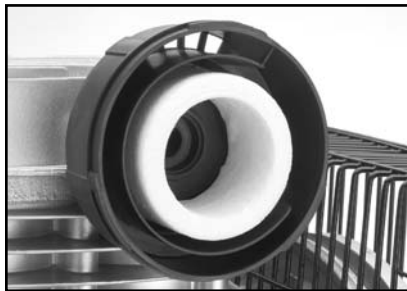

Figure 14. Air filter foam element
- Remove the air filter foam element shown in **Figure 14** and rinse it out with water. Allow it to dry and re-install.